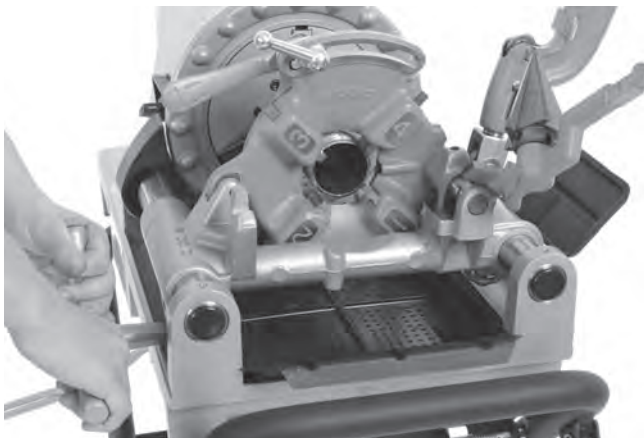

Figure 24 – Threading Pipe (811-A Quick Opening Die Head shown)
5. Turn carriage handwheel to move the die head to the end of the pipe (Figure 24). Apply slight force to the